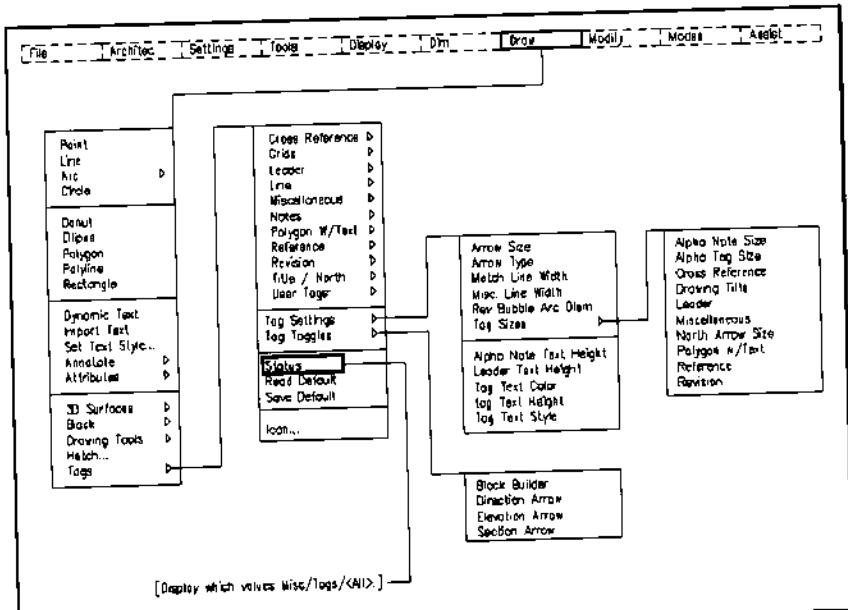
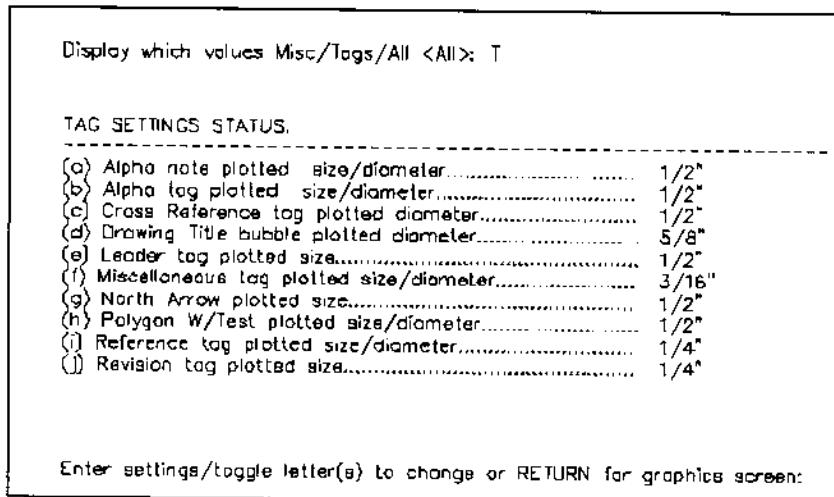
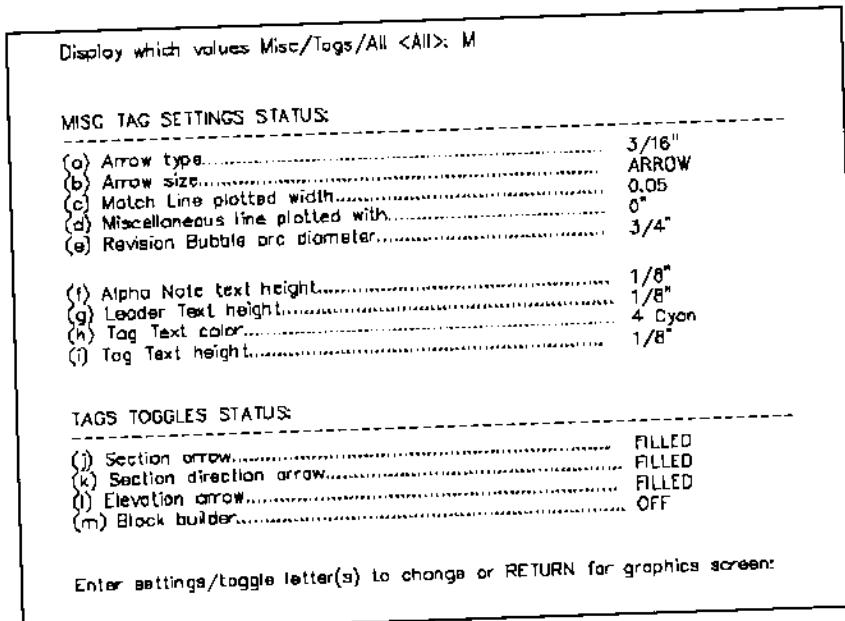

Figure 15.
Figure 21.
Figure 22.
- Tag size and color, as well as text tag height, are controlled from Tag Settings and Tag Toggles menus as shown in Figure 15, or Status under the Tags cascading menu.
4. To change Alpha Note text height and tag diameter, select Tag Settings, then Tag Sizes under the Tags menu, as shown in Figure 15. The same settings are available from the Tag Status display, as shown in Figure 21 by choosing letters A and B.
2. These same setting options are in the Tags Status display shown in Figure 21 or the Misc Status display shown in Figure 22.